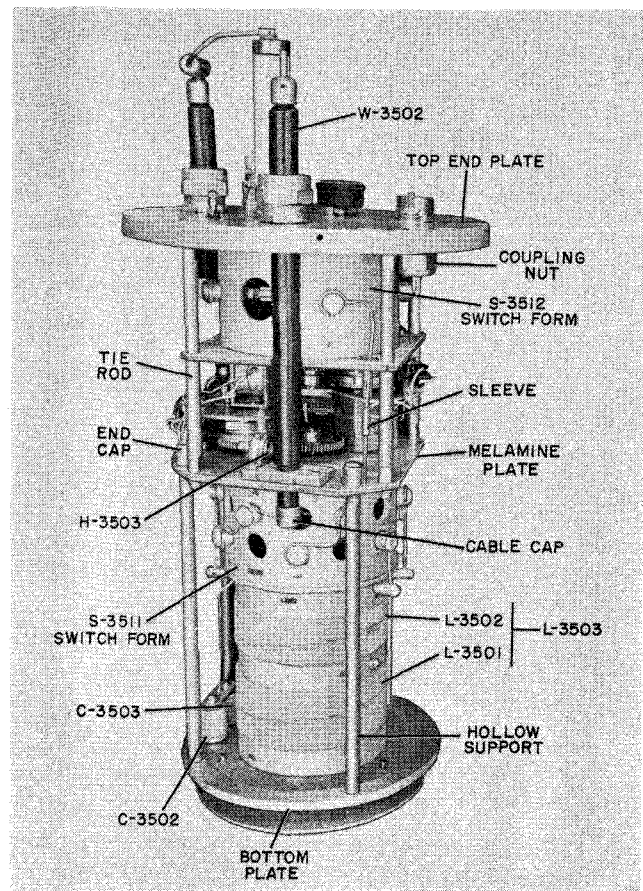

Figure 7-100. Antenna Coupler CU-372/SRT, Less Housing
*Step 3.* The housing and unit may be separated by axially removing one from the other. Note that the housing remains mounted in the shock mount assemblies. At this point the inner components of the antenna coupler are accessible (figure 7-100).
*Step 1.* Unsolder sleeve (figure 7-100) and slide sleeve back on conductor.
*Step 2.* At this point, stator contacts on switch form of S-3512 may be removed and replaced by using the special tool, H-3503, mounted on the unit (figure 7-100). Contact button assemblies may be removed, allowing contact E-3501 or spring O-3502 to be replaced. See contact button assembly detail of figure 7-98.
*Step 2.* Contact buttons on S-3511 switch form may be removed and replaced by means of the special tool, H-3503, mounted on melamine plate. (See figure 7-100.)
cedures indicate trouble with vacuum capacitor C-3501 or coil L-3503, a step-by-step disassembly procedure should be followed. (Refer to figures 7-100 and 7-102.)
*Step 1.* Loosen the end caps, figure 7-100, to allow the four hollow supports to be unthreaded from the bottom plate. The bottom plate and components mounted on it can now be hinged back on the three cables that pass through the hollow supports. (See figure 7-102.)